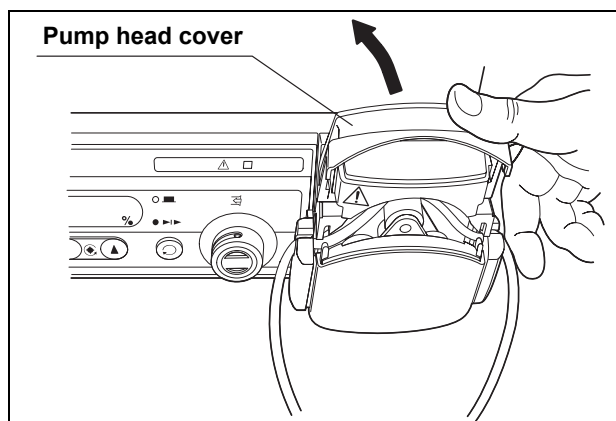

Figure 7.9
8. Rotate the pump head cover upward to open it (see Figure 7.9).